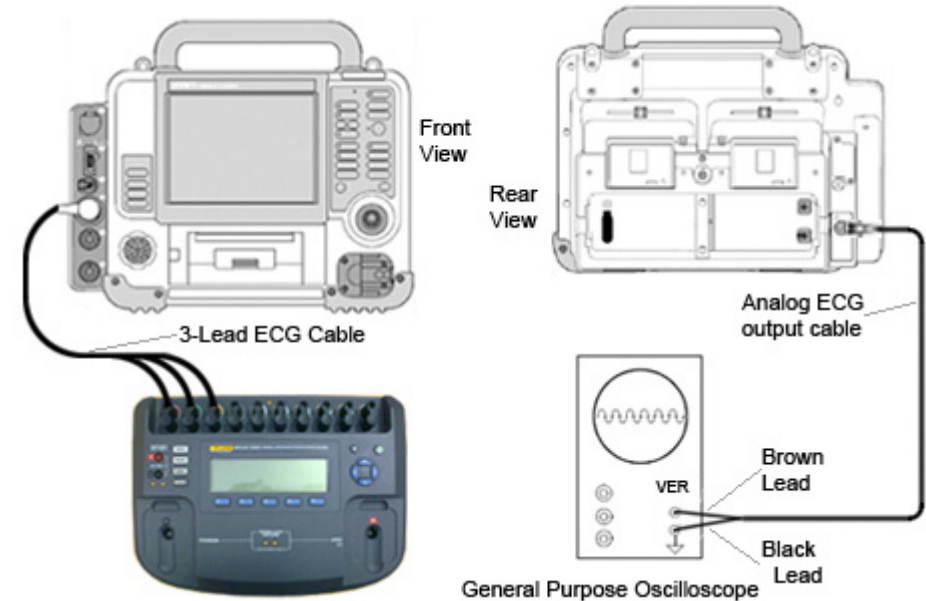

Figure 5.39—Analog ECG output test setup
1. Connect the device to the patient simulator and oscilloscope as shown in Figure 5.39.